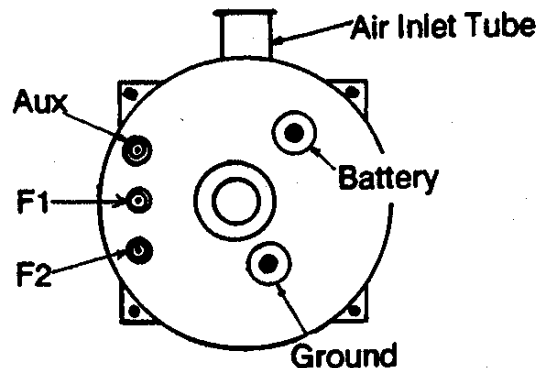

FIGURE 10
2. Position the alternator so that the drive end (7) is downward and carefully install the slip-ring housing (29), with the brushes installed and brushes held in place in the brush-holder assembly by the retainer pins, onto the shaft. Orient the housing so that the "AUX" terminal is located at the 9 o'clock position to the air inlet tube. See Figure 10.
3. Install the four through bolts (31), and washers (30) and torque to 30-35 in.-lb. Safety wire the through bolts.